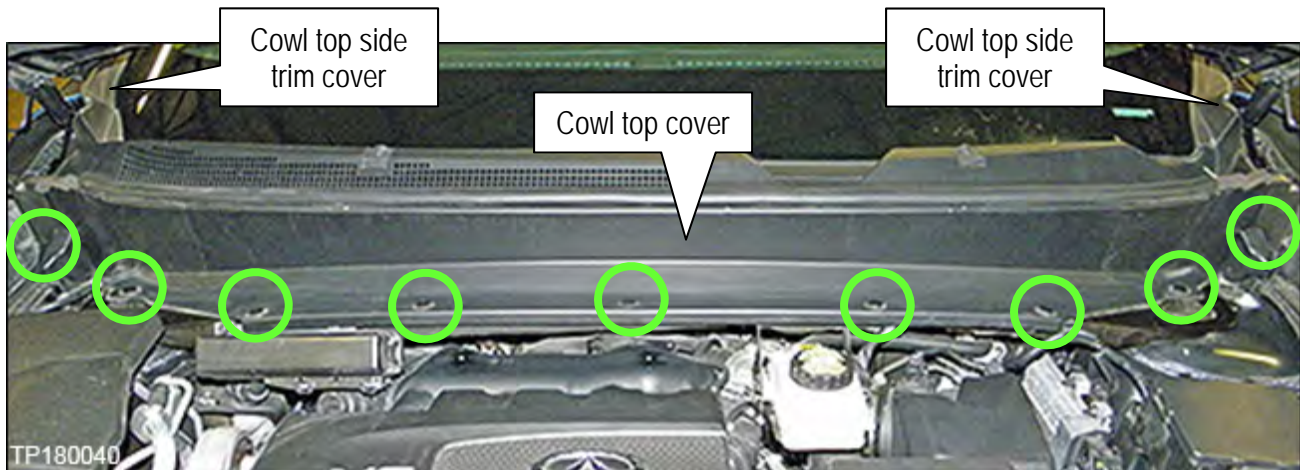

Figure 14
18. Remove the 9 clips that attach the cowl top cover (Figure 14).